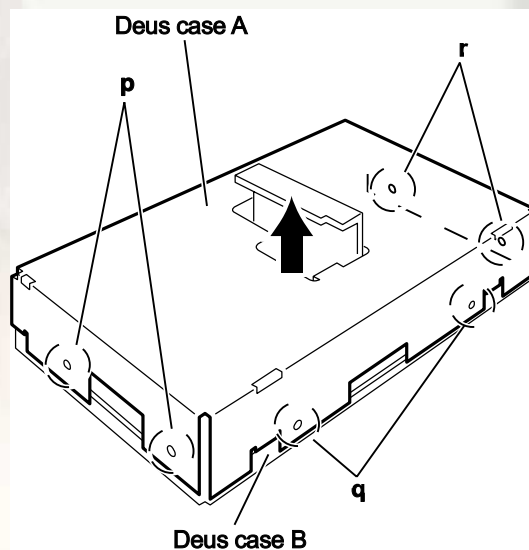

Fig.19
(4) Take out the digital amplifier board assembly.
(5) Release the joints (**p,q,r**) of the deus case A and deus case B, and remove the deus case A in the direction of the arrow. (See Fig.19.)